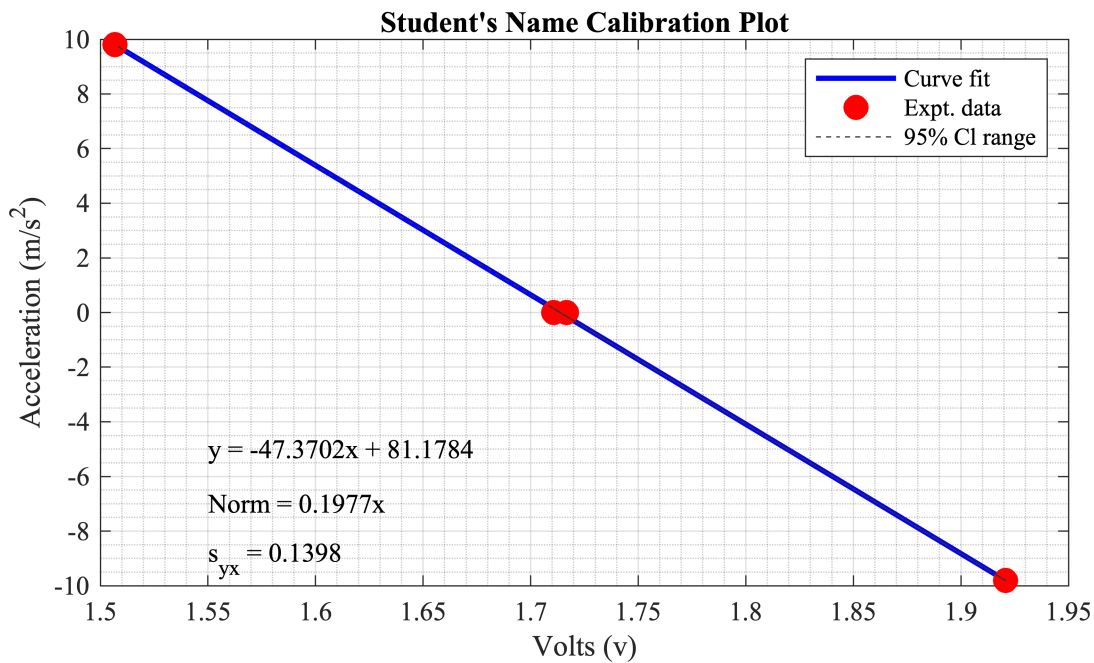

Figure 3: Calibration of the accelerometer.
1. For this experiment, a 3-axis accelerometer has been fixed to the end of the pendulum apparatus (see Figure 2). The accelerometer has been configured for $\pm 6g$ operation. The y- axis of the pendulum points towards the pendulum rotation axis (see Figure 3). For more information about the accelerometer, see Pololu.
2. Connect the accelerometer to the breadboard using the provided 3-wire cable. See figure 3(a).
3. Connect the V_{in} and GND pins on the accelerometer to the breadboard 5 Volt supply power (already used to power the potentiometer). See figure 3(b) for reference.
4. Connect the y-axis accelerometer output to AI1 (Differential Analog Input 1). See figure 3(b).
5. Connect the DAQ GND, instead of the AI1-, to the ground on the breadboard. See figure 3(b).
- Reference figure 3 for proper figure creation.